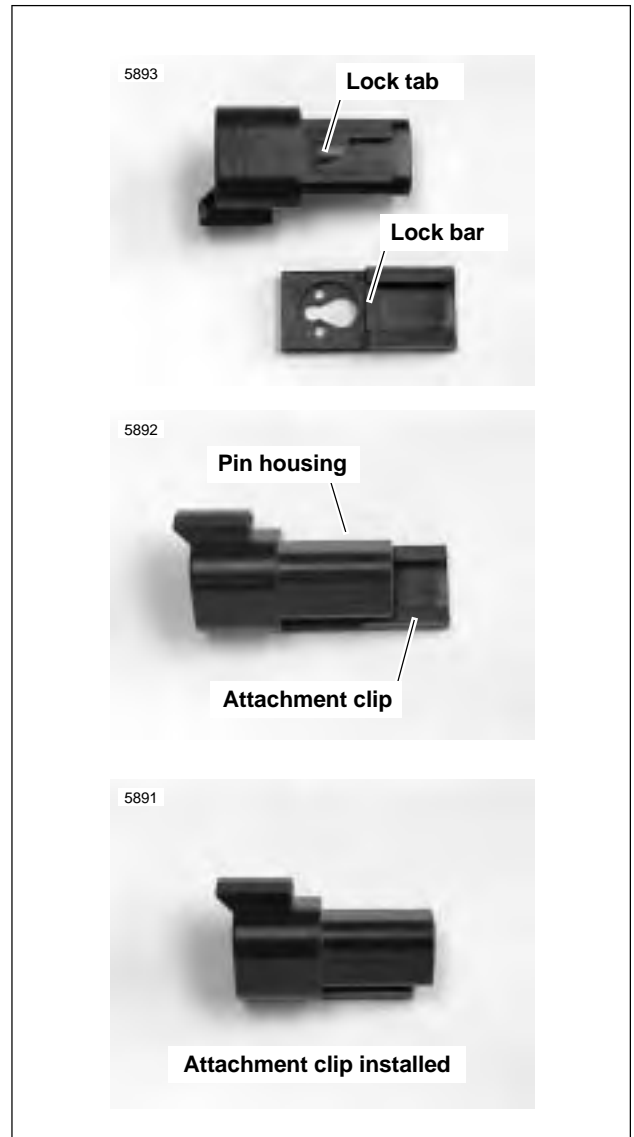

Figure B-11. Attachment Clip Installation
- See Figure B-11. Fit the attachment clip to the pin housing, if removed. Place large end of slot on attachment clip over T-stud on frame. Push assembly forward to engage small end of slot.